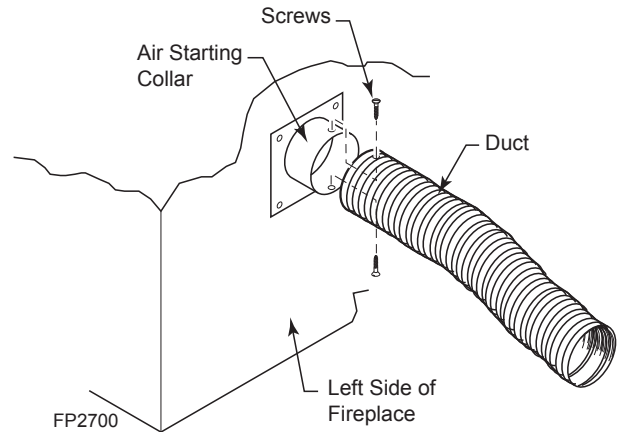

Figure 17 - Attach Outside Duct to Starting Collar
4. Attach outside duct to starting collar with duct clamp or screws. *Figure 17*
6. Select and cut a piece of duct long enough to attach to the fireplace and stick out at least 3" beyond the face of the wall to which the AK-4 inlet air vent will be attached. Cut duct with a standard pocket knife. *Figure 17*